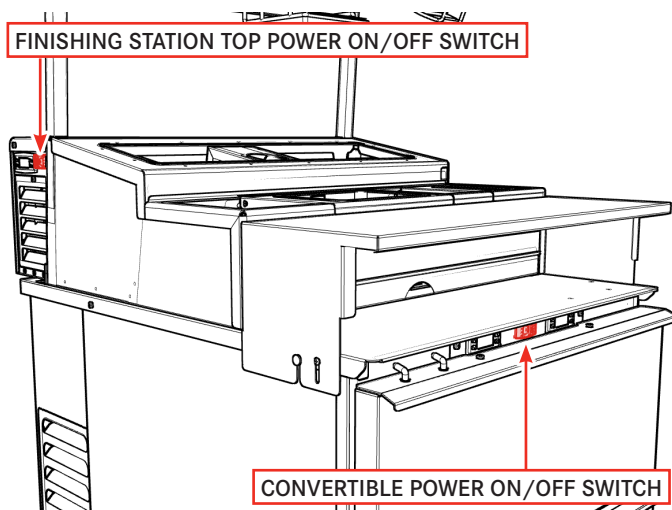

Fig. 28
1. Turn power ON/OFF switches for Finishing Station top and Convertible Cooler Freezer ON (Fig. 28).